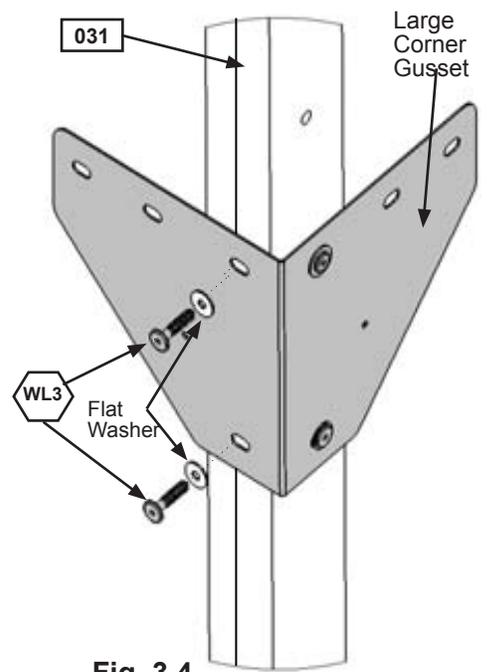

Fig. 3.4
B: On other side of the Large Corner Gusset attach to the (031) Post Short with 2 (WL3) 1/4 x 1-3/8" Wafer Lag (with flat washer) per Gusset. (fig. 3.4)